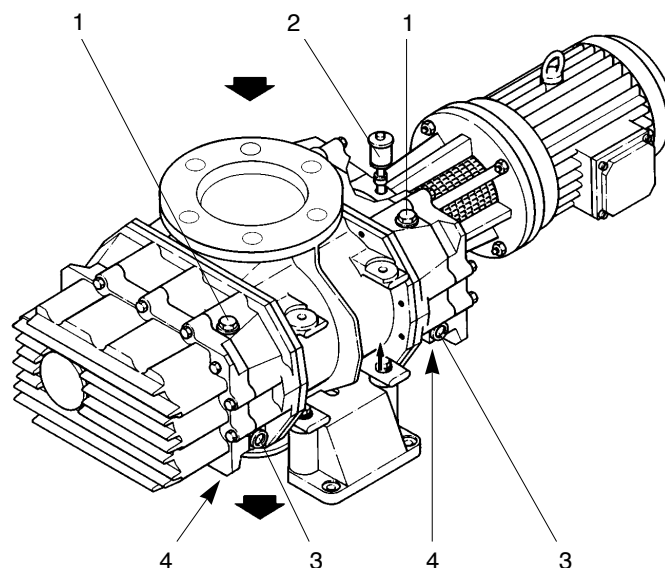

Fig. 13 Oil change
Never open the oil-fill or oil-drain screw (Fig. 13) in the presence of a vacuum or while the pump is running. There is the danger that oil may squirt out.
**Key to Fig 13**